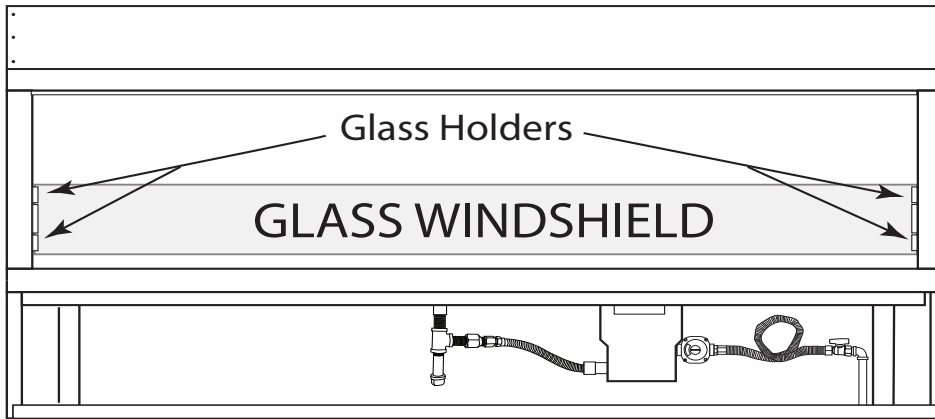

Fig. 36 Windshield clips location.
3. Carefully bring the bottom edge of the glass into the top area of the windshield clip (See Fig. 36).